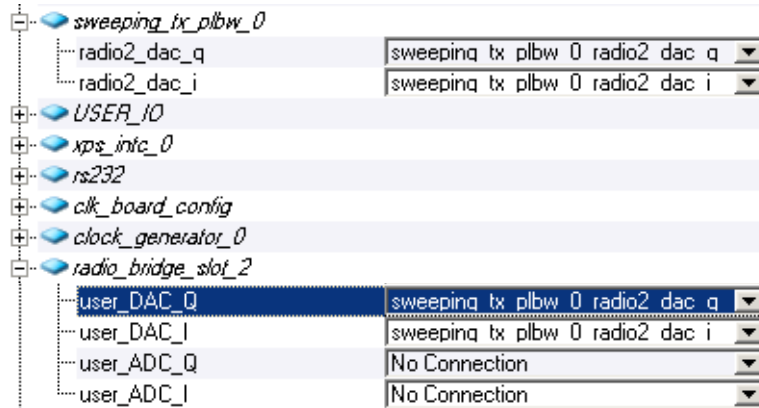

Figure 2: Custom core and radio bridge ports
7. When complete, your ports list should look like those shown in Figure 2 (the order of the ports may be different in your project).